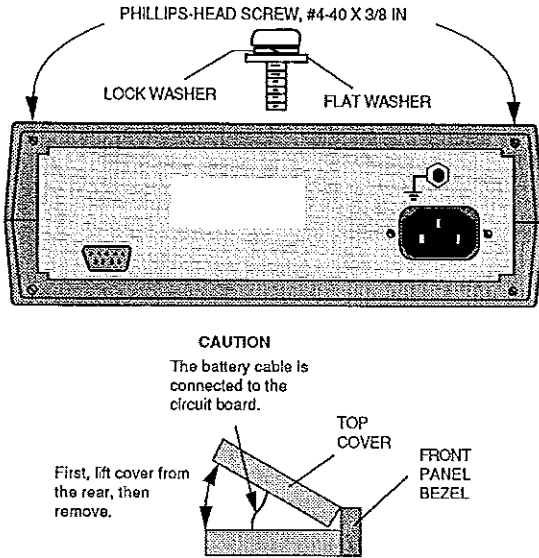

Figure 6-2. UDL45 Top Cover Removal
- (2) Remove the top cover:
- a. Remove the two top cover Phillips-head screws, with lock washers and flat washers, from the rear panel (Figure 6-2).
- d. On the rear panel, install the two top-cover screws, lock washers and flat washers (see Figure 6-2).